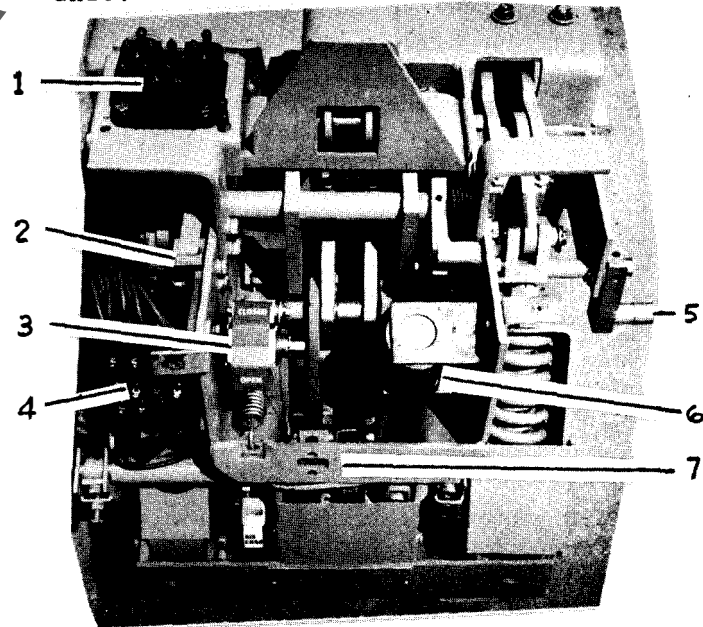

FIGURE 4 MECHANICAL TOP VIEW
The ML-13C operating mechanism is of the stored energy type. The mechanism will operate on AC or DC voltage as indicated on the breaker nameplate. Closing and opening operations are controlled electrically by the metalclad or remote relaying and mechanically by the manual close and trip buttons on the breaker. All secondary connections from the breaker to the metalclad unit are made through the coupler (1) Figure 4.
A positive interlock (5) Figure 4 and interlock switch (2) Figure 4 are provided between the breaker and metalclad unit to prevent raising or lower-
The breaker can be opened either electrically by energizing the trip coil (6) Figure 4 or by pushing the manual trip button (5) Figure 1. In each method the trip latch (14) Figure 9 is rotated permitting the operating mechanism to collapse. The energy stored in the opening spring is released opening the breaker. At the end of the opening operation the dashpot (5) Figure 9 will stop the contacts and linkage and absorb any excess energy from the system thereby controlling contact rebound. During this operation, the trip coil circuit is deenergized and upon completion of the opening operation, the operating mechanism is returned to its reset position, ready for closing.